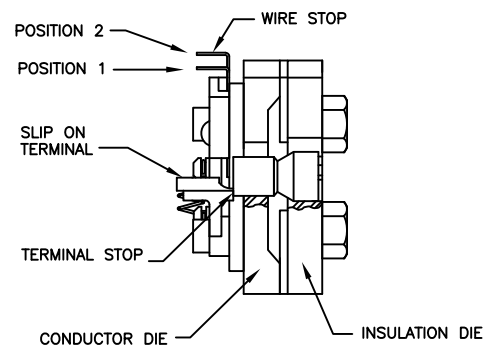

FIG. 8
- H6E/H28-6E Set the wire stop in Position 2 as shown in Fig. 8, and insert the connector with the back, or flat part of the roll form on the terminal stop. Insert the stripped end of the wire to the wire stop in the connector and proceed with crimping as previously described.